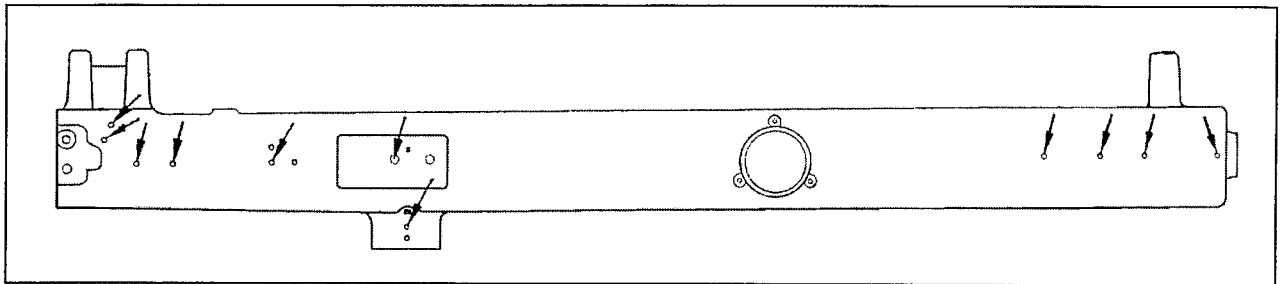
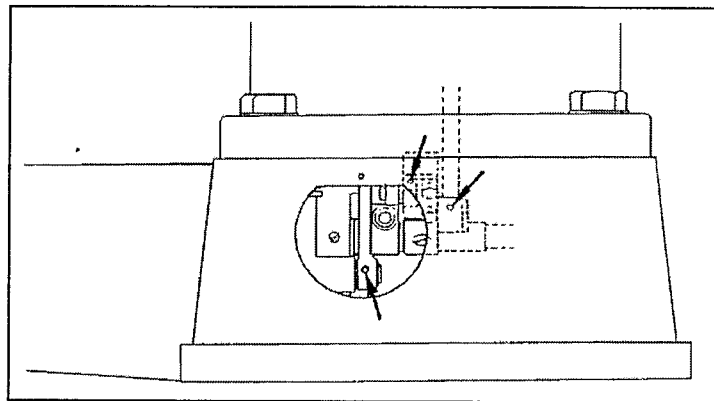

Fig.1.1
Fig.1.2
3) Lubrication (Fig.1.1、 Fig.1.2)